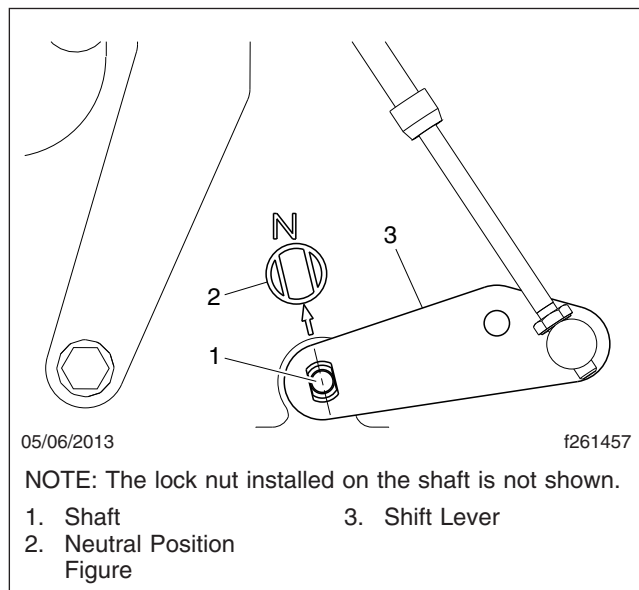

Fig. 13, Shift Lever Neutral Position, Kit KPP 294201
14. Make sure the shift control on the dash is set to NEUTRAL, and the shift lever on the transmission is in the neutral position, as indicated by the flats on the shaft and the neutral position figure cast into the transmission. See Fig. 13.